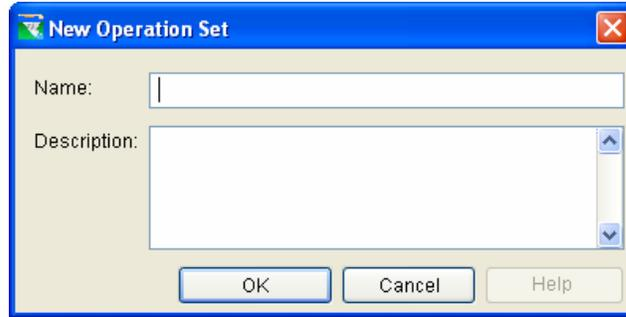

Figure 11.2 New Operation Set
1. Select **New** from the **Operations** menu of the Reservoir Editor. The **New Operation Set** dialog box will open (Figure 11.2).